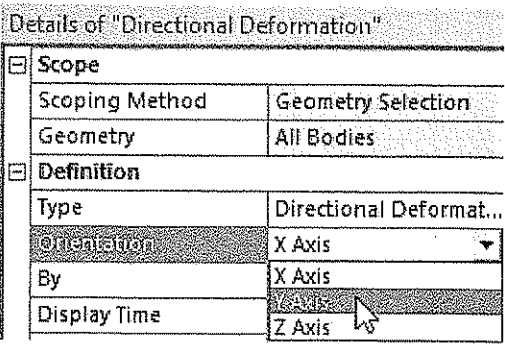

Figure 9-19 Selecting Y Axis from the Orientation drop-down list
4. In the **Details of “Directional Deformation”** window, expand the **Definition** node, if it is not already expanded, refer to Figure 9-19.
5. Select **Y Axis** from the **Orientation** drop-down list, refer to Figure 9-19.
8. Next, select **Y Axis** from the **Orientation** drop-down list, refer to Figure 9-19; a yellow thunderbolt is displayed before the **Solution** node.